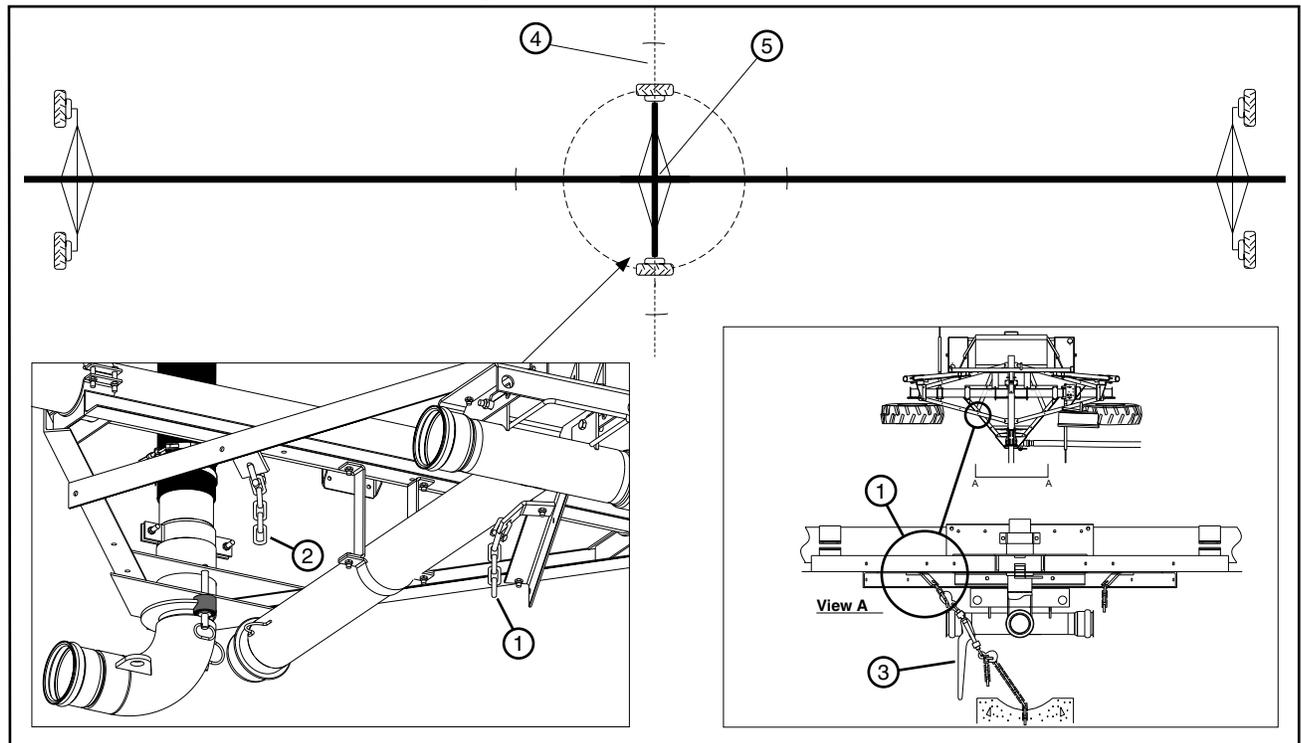

Figure 59-2 Concrete Anchor Method.
6. Tie the machine to the anchor with a load binder attached to one of the short chains on the drive unit depending on the direction the machine will be rotated. See Figures 59-2.
7. When the machine is started it will pivot around the center of the base beam. See Figures 59-2.